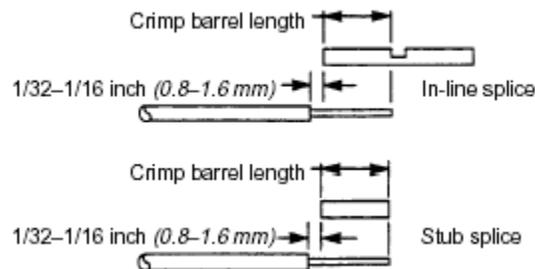

Figure 20-16 Insulation Strip Length
2. The strip length for a particular crimp splice equals the length of the crimp barrel plus $1/32$ – $1/16$ inch (0.8–1.6 mm) as shown in Figure 20-16.